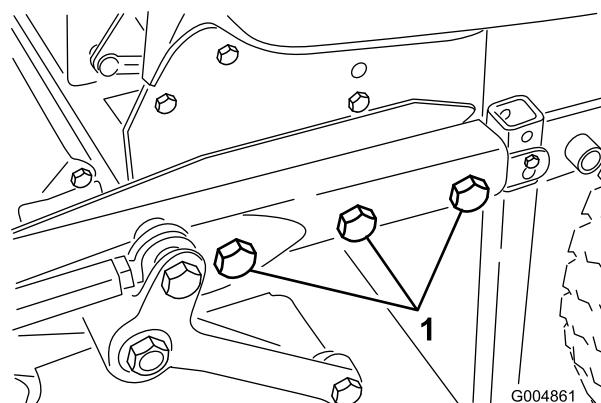

Figure 40
13. Carefully remove the bolts (3/4 inch), washers and nuts that secure the deck frame to the rear frame (3 on the left side and 2 on the right side) (Figure 40).